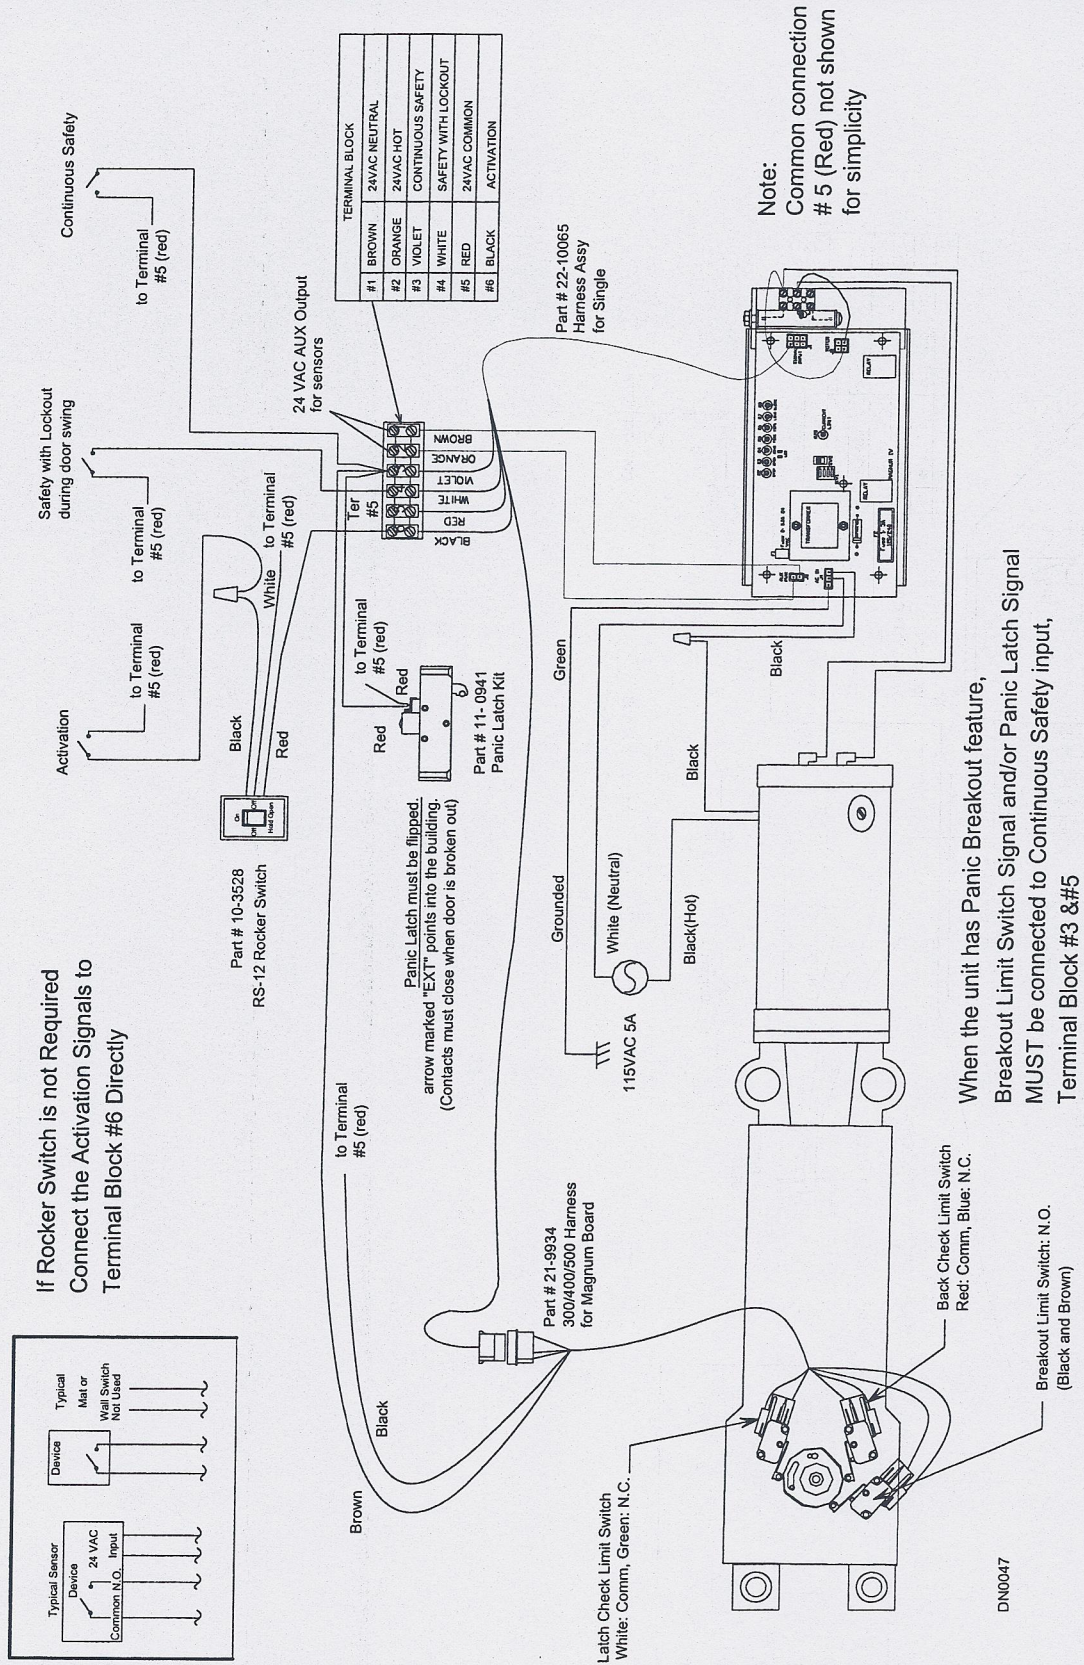

Figure 18 - General Wiring - Single Diagram
8. Connect the four-pin plug from the limit switches to the plug at the end of the main harness. (Figure 18)
9. Connect the Rocker Switch to the terminal block of the main harness. (Figure 18)
10. Connect the motor harness from J5 (marked MOTOR) on the Magnum IV board to the associated red and black terminals on the motor. (Figure 18)
13. Connect the activation/detection devices to the terminal block of the main harness. (Figure 18).